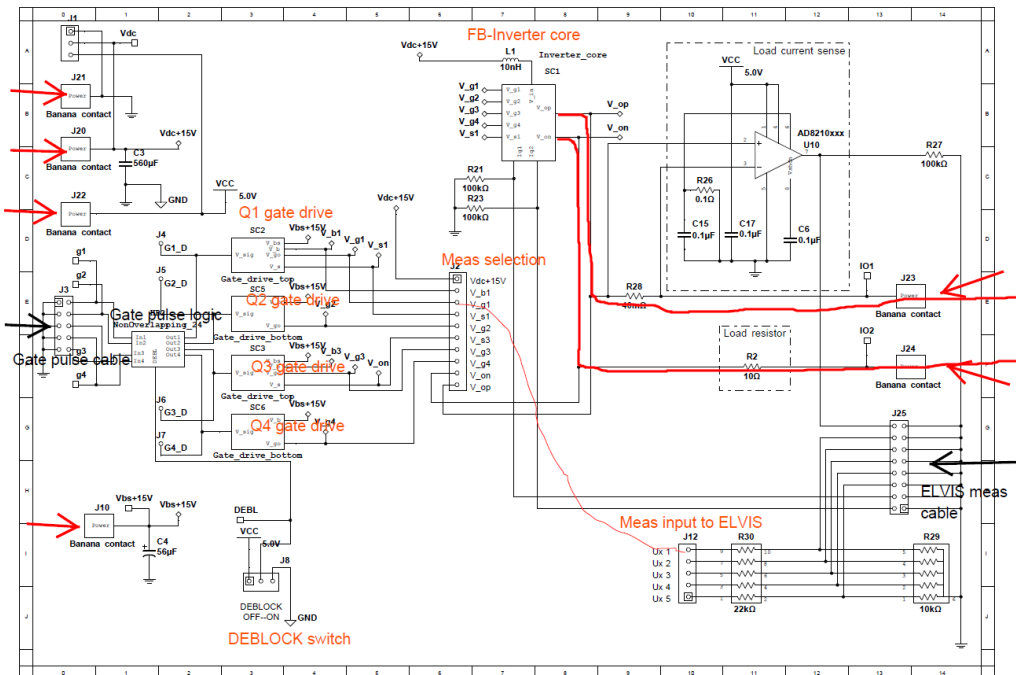
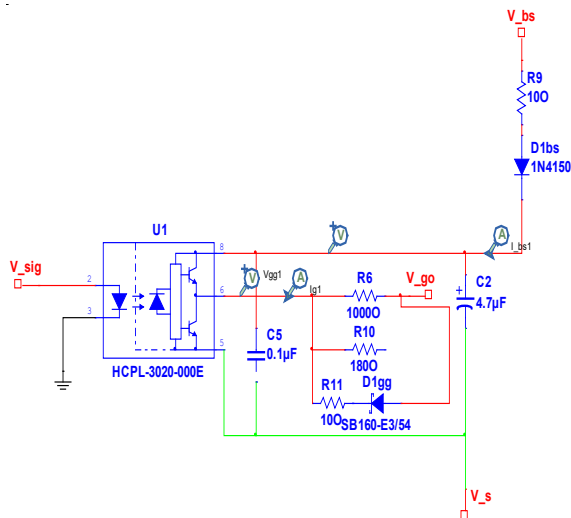
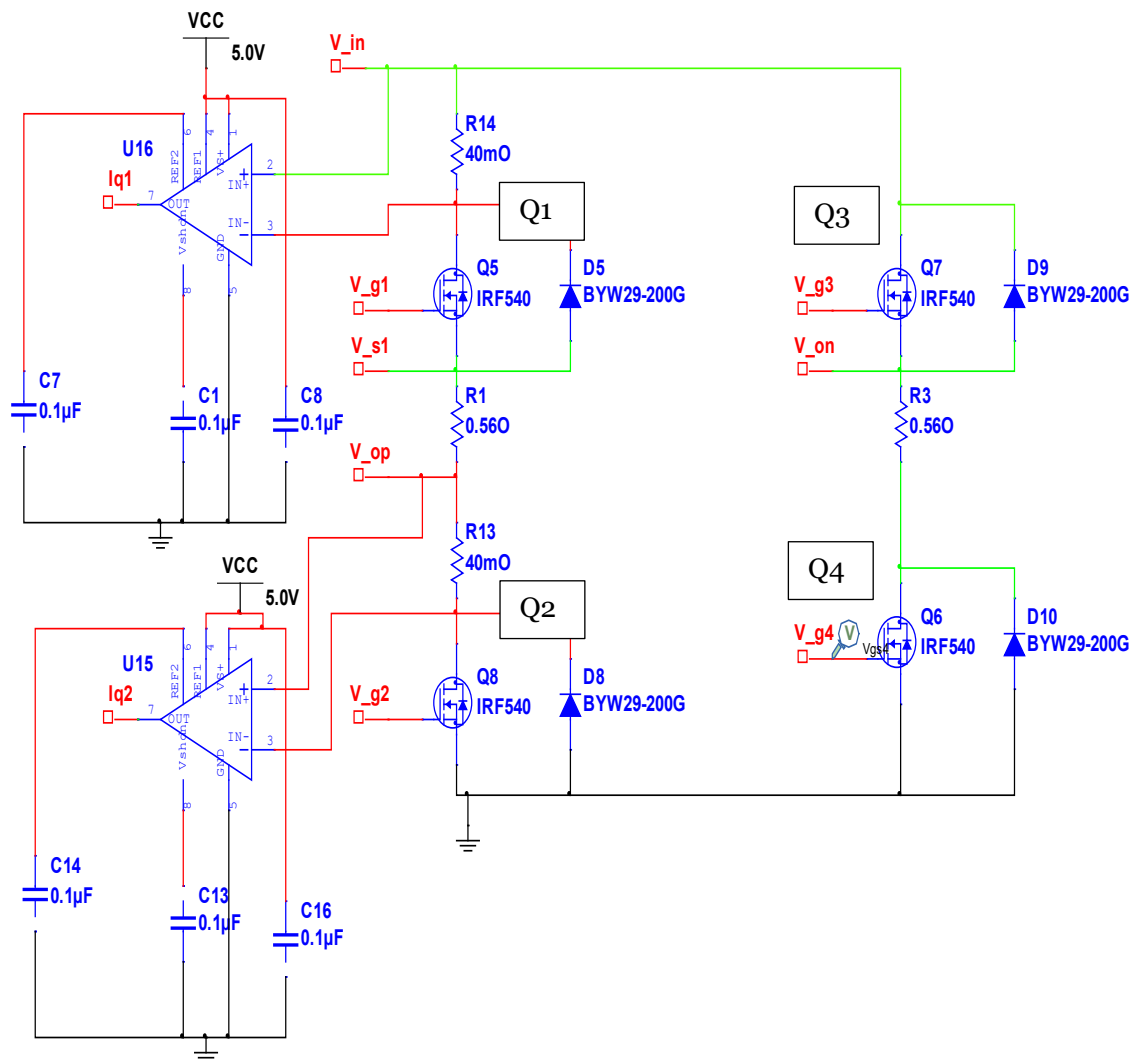

Figure 1 FB-Inverter circuit overview
Figure 4 Gate drive of upper switches (Q1 & Q3)
Figure 6 Full-bridge inverter circuit
We will here get familiarized with the design of the Full-bridge (FB) Inverter. The block diagram is presented in Figure 1, where the functional units are placed in a
The physical cables required for power supply and signal interface are indicated in Figure 1 by arrows. On the left hand side the 4 banana sockets for power supply connections are found. From the top:
Two flat cables are required to connect gate signals to the full-bridge and to allow measurement signals to be sent back. The flat cable connectors are indicated by black arrows in Figure 1.
1. Gate signals. Left hand side connection in Figure 1 and the lower connection on the physical board (**Fel! Hittar inte referenskölla.**).
2. Measurement signals. Right hand side connection in Figure 1 and the upper connection on the physical board (**Fel! Hittar inte referenskölla.**).
Furthermore, there are a total of 8 measurement signals which can be used from the FB-inverter. 3 of these are dedicated to current sensing while 5 are flexible to setup by selecting among the 10 measurement points, as listed in sub-section “Measurement signals”. Selection of the 5 flexible measurement signals are done by installing wires between the corresponding point on the “Meas selection connector” and the “Meas input to ELVIS” as indicated in Figure 1.
Isolation is provided through the opto-coupler U1 of the type HCPL-3020 by AVAGO Technologies. The data sheet is found in the Lab2 system folder. The supply to the gate drive is provided by the bootstrap circuit constituted by R9, D1bs and C2 in Figure 4. Bootstrapping is required since the upper switches will see a potential of the source (and gate) that changes through the switching operation. The bootstrap is fed by the dc-voltage source V_{dc_bs} in Figure 1. Charging of the bootstrap capacitor C2 will commence at the initial turn-on of the main switch Q2 (see Figure 6). The initial charging current will be limited by R2, which also sets a time constant together with the capacitor which defines the speed of charging.
The full-bridge inverter circuit is defined by the “Inverter_core” block in Figure 1, where the following external terminals are found:
Inside “Inverter-core” the detailed full-bridge inverter circuit is defined as shown by Figure 6. Please note the labeling of the main MOSFETs and diodes not being as per the general notation. The labeling shown in Figure 6 corresponds to labeling found on the FB-Inverter board. However, for general notation the following translation shall be made:
The FB-Inverter board are setup for output of 8 analog measurement signals. 3 current measurements and 5 voltage measurements. The current signals are derived from current sense amplifiers LT1999IMS-10. As described in previous sub-section, two current sense circuits are monitoring the Q1/D1 and Q2/D2 currents while a third current sense is measuring the load current as shown in Figure 1.